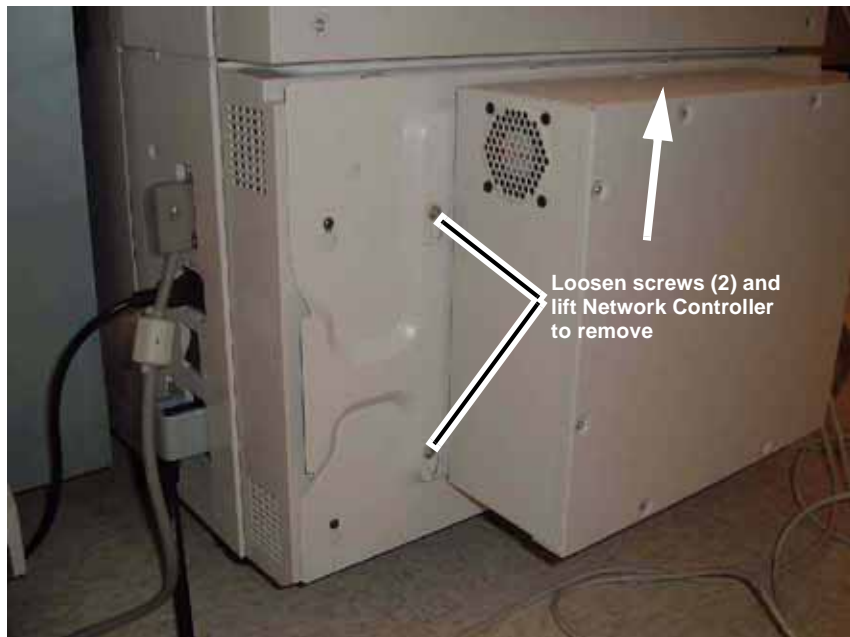

Figure 2 Removing the Network Controller
2. Remove the Network Controller (Figure 2).